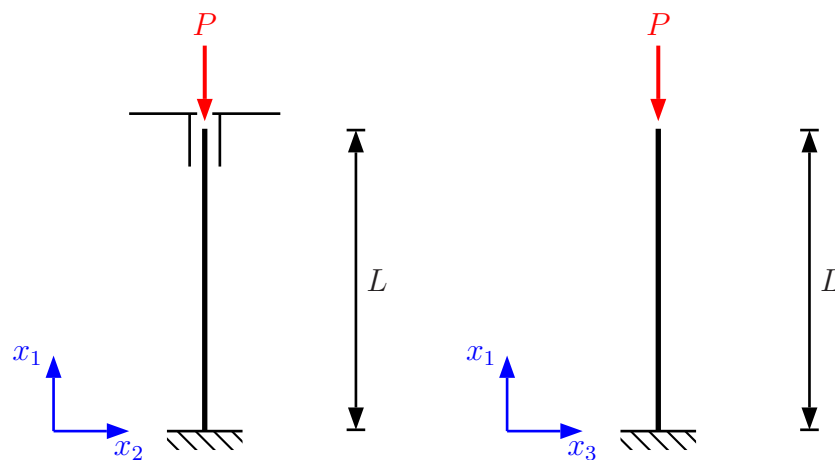

Figure 9: Column constrained differently in the  $x_2$ - and  $x_3$ -directions at  $x_1 = L$ .
**4.1** (20 points) A column has a length  $L$  and a constant rectangular cross-section of dimensions  $a = 0.1$  m in the  $x_2$ -direction and  $b = 0.2$  m in the  $x_3$ -direction. It is made of a material with  $E = 70$  GPa and  $\sigma_y = 100$  MPa. The column is clamped at  $x_1 = 0$ . At  $x_1 = L$ , it is constrained differently in the  $x_2$ - and  $x_3$ -directions and loaded by a force  $P$  as shown in Figure 9. Specifically, in the  $x_2$  plane, the deflection and its derivative are constrained to be zero, while in the  $x_3$  plane both are unconstrained. Compute the buckling load in the second case of buckling in the  $x_3$  plane and compare your results with buckling failure in the other plane and the possibility of column failure occurring due to yielding. An analysis of the  $x_2$  plane is included below for convenience.